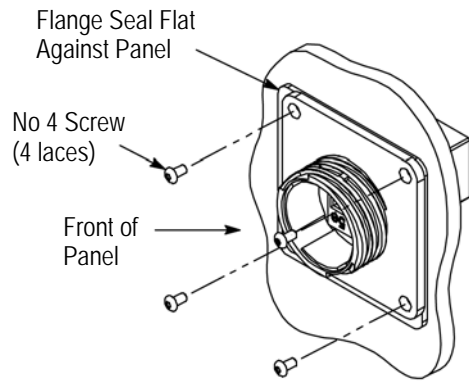

Figure 4
4. Insert the receptacle assembly into the panel until the flange seal is flat against the panel. See Figure 4.